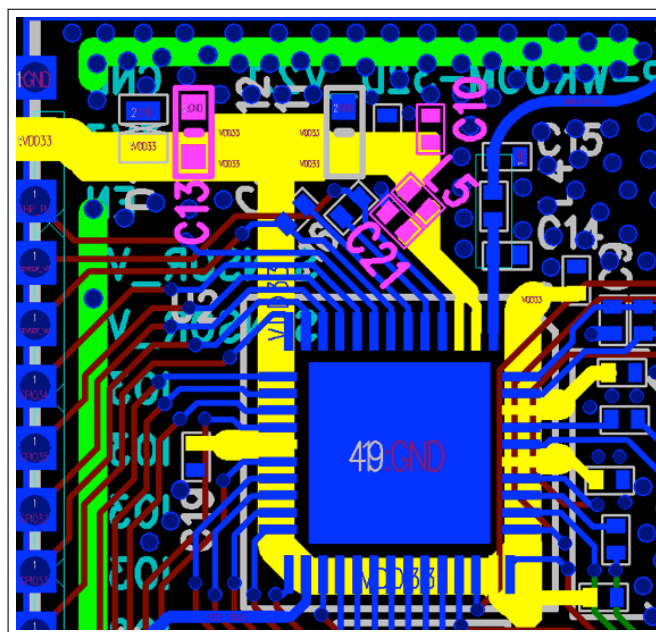

Figure 14: ESP32 Power Traces in a Four-layer PCB Design
- The 3.3 V power traces, highlighted in yellow, are routed as shown in Figure 14. The width of the main power traces should be greater than 25 mil. The width of the power traces for pin3 and pin4 should be at least 20 mil. The width of other power traces should be within the range of 12 ~ 15 mil.
- As shown in Figure 14, an ESD protection diode is placed close to the power port (marked in red circle). A 10  $\mu\text{F}$  capacitor is required before the power trace connects the ESP32 chip, to be used in conjunction with a 0.1  $\mu\text{F}$  capacitor. Then the power routing is divided into two ways. The power rails of pin3 and pin4 should be routed together to reduce the coupling between different power pins.
- It is required to place C (capacitor) and L (inductor) near the power pins pin3 and pin4. As shown in Figure 14, C13 (10  $\mu\text{F}$ ) is placed at the entrance of the power, and C10, L5, and C21 are placed near the chip's analog power pins. When possible, add a 0.1  $\mu\text{F}$  capacitor to each digital power supply pin. Note that all decoupling capacitors should be placed close to the power pin, and ground vias should be added adjacent to the ground pin for the decoupling capacitors to ensure a short return path.